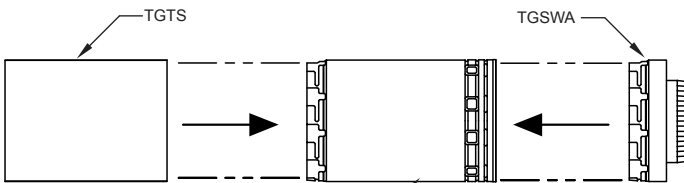

FIG. 9a
- Install tee cap to bottom of wall support adaptor with a minimum of two (2) #10 x 1/2" sheet metal screws.
- Slip a trim sleeve joint cover (TGTS) over the male end of TG pipe that is to reach through the wall firestop to the tee. Attach single wall adapter (TGPSWA) to the female end of TG pipe and slip TGTS flush to the end of TGPSWA. (See FIG. 9a and 9b.)